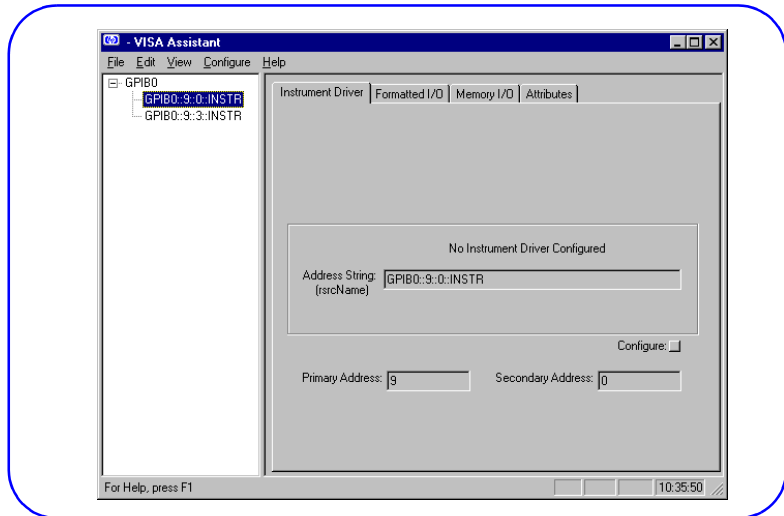

Figure 32. VISA Assistant Main Menu
- 2 To display the VISA Assistant Main Menu, click *Start|Programs|HP I_O Libraries|VISA Assistant* for a display similar to that in Figure 32. (For this example, we will assume only the HP E1406A Command Module and HP E1411B DVM are installed in the mainframe.)